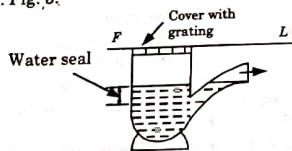

Fig. 3.
- iii. This trap takes sewage, either to sewer or to inspection chamber or man-hole. Fig. 3.